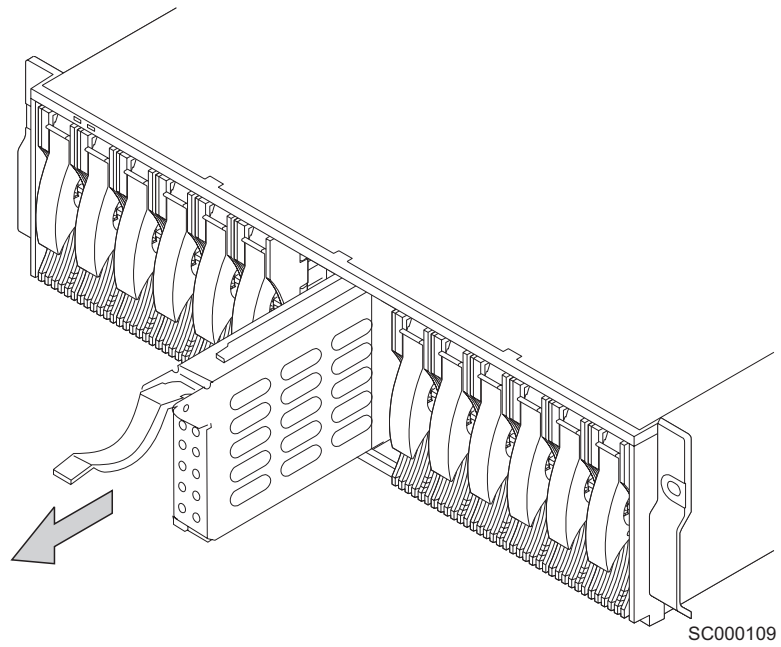

Figure 54. Removing the SCSI bridge card assembly
5. Grasp the assembly, and pull it out from the 2104 Model DS4 or Model TS4, as Figure 54 shows.